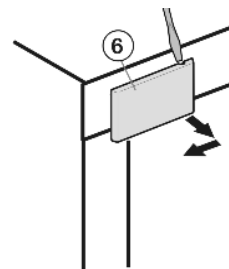

Fig. 16
- Loosen cover that is on the hinge side Fig. 16 (6) using a screwdriver and remove by pulling outwards.